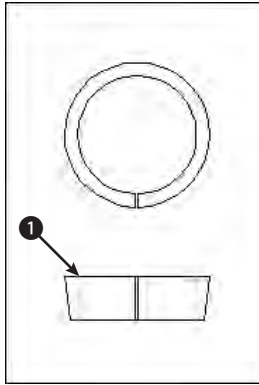

Figure 9-9: The valve piece in two views
2. Save the file as *ab09-06.dwg* in your *AutoCAD Bible* folder. This drawing, shown in Figure 9-9, shows part of a valve that is manufactured in several sizes. In this exercise, you scale both views to represent a different-size valve piece. Ensure OSNAP is on. Set running object snaps for quadrant and endpoint.
Specify base point: *Use the Endpoint object snap at point 1 in Figure 9-9.*